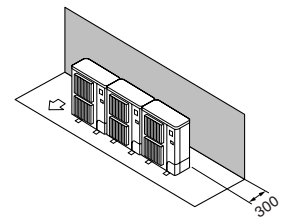

Fig. 2-8
① Obstacles at rear only (Fig. 2-8)